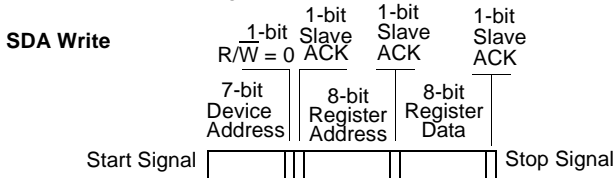

Figure 1. Data Frame Architecture
The CY2410-3 utilizes a two-wire-interface SDAT and SCLK that operates up to 400 kbits/sec in Read or Write mode. The basic Write serial format is as follows: start bit; 7-bit device address (DA); R/W bit; slave clock acknowledge (ACK); 8-bit memory address (MA); ACK; 8-bit data; ACK; 8-bit data in MA+1 if desired; ACK; 8-bit data in MA+2; ACK; etc. until stop bit, as illustrated in Figure 1.